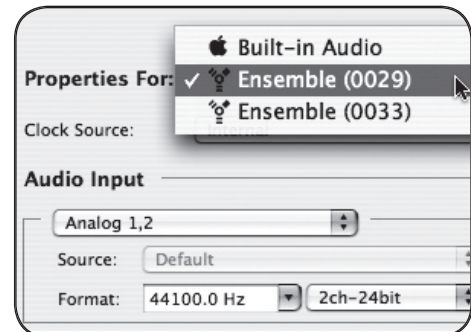

figure 18
b. Select each Ensemble in the AMS **Properties For** field, and set the sample rate to your preferred rate. It's essential that all interfaces be set to the same rate before proceeding. (figure 18)